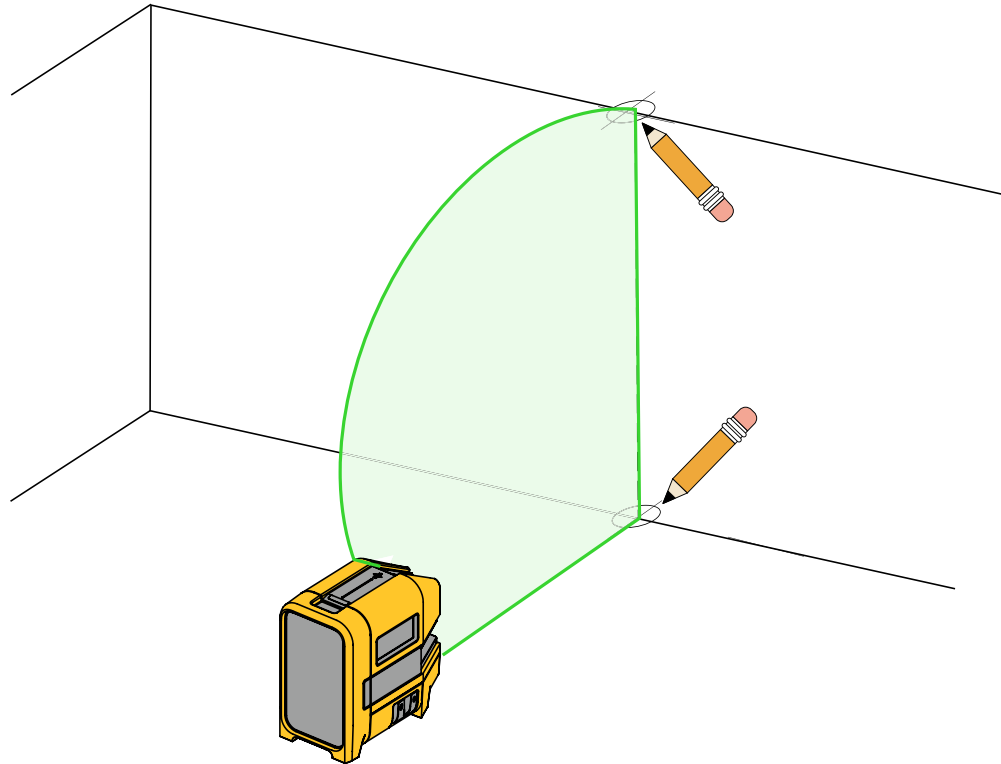

Figure 3. New Vertical Alignment
2. Turn on the vertical laser and aim the laser at the target area. See Figure 3.